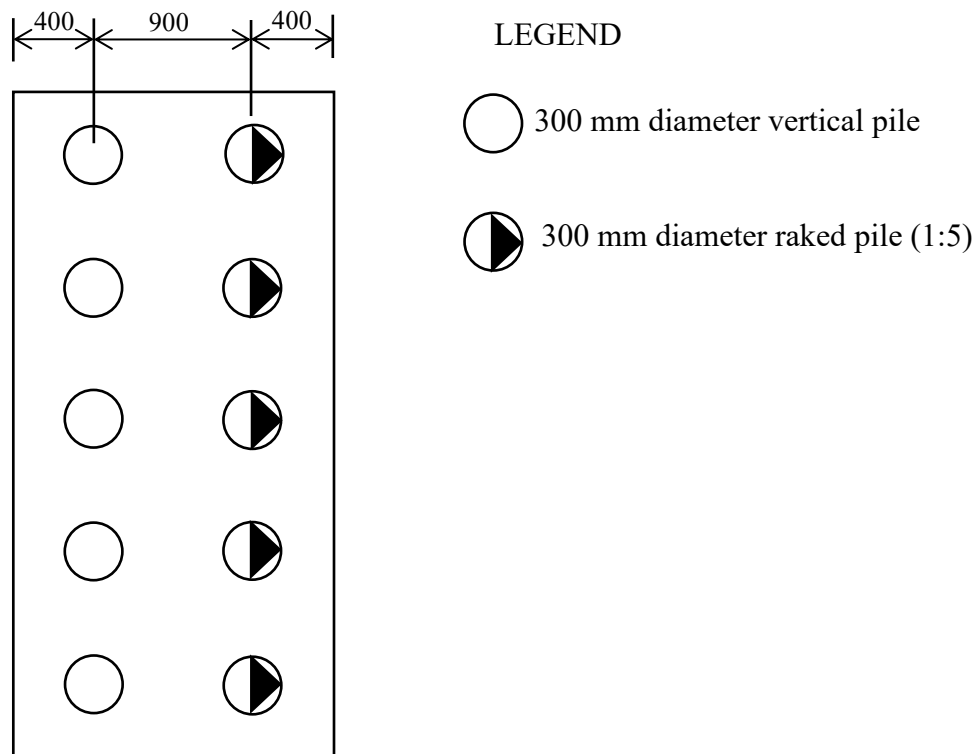

Figure 3 : Pile arrangement for a bridge abutment (all dimensions in mm)
- (b). A seat-type reinforced concrete abutment has been selected for a single span bridge project. The proposed abutment is supported by five vertical piles and five raked piles as shown in **Figure 3**. If the allowable axial pile capacity is calculated to be 800 kN, evaluate the pile arrangement. The overall forces and the corresponding lever arm are shown in **Table 2**. Take clockwise moment as positive.